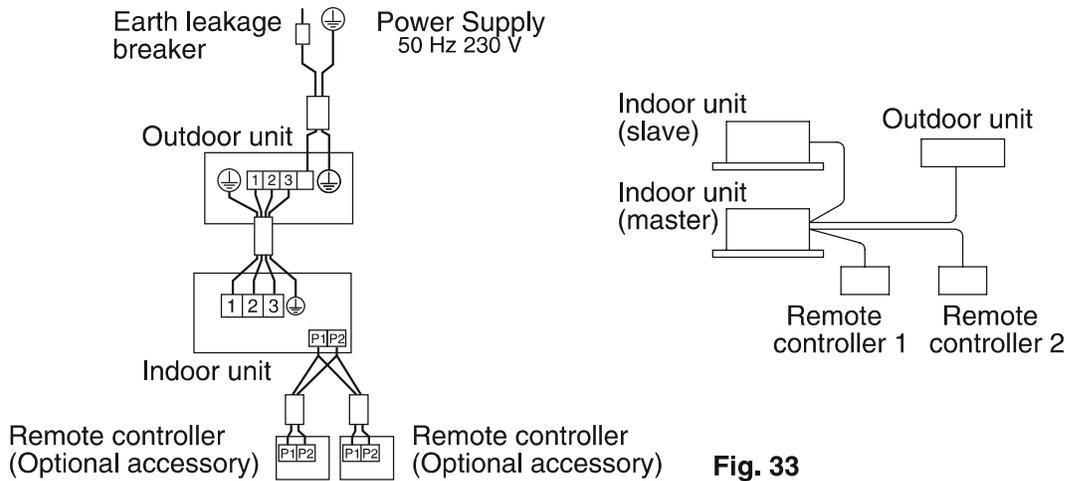

Fig. 33
- **2 remote controllers control:** 2 remote controllers control 1 indoor unit. **(Refer to Fig. 33)**
(1) Remove the control box lid.
(2) Add wiring between the remote controller 2 (Sub) and the terminal (P1, P2) of the terminal block (X1M) for the remote controller in the control box. (There is no polarity.) (Refer to Fig.33 and Table 5)